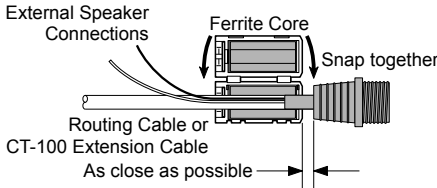

FIGURE 2
- 2. Referring to Figure 2, attach the supplied ferrite core as close as possible to the MIC plug of the Routing Cable and External Speaker Connections, then snap its two halves together. And then, wind some plastic tape around the ferrite core, to prevent vibration from causing the two halves to split apart and fall off the wires.